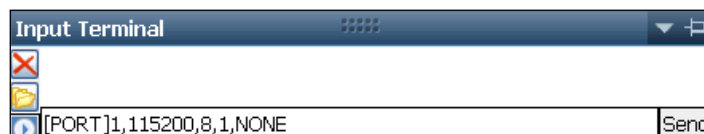

Figure 96: Input of New Baud Rate
- Paste the command string into the *Input Terminal* window in StarUtil 3000 (see the example in Figure 96).